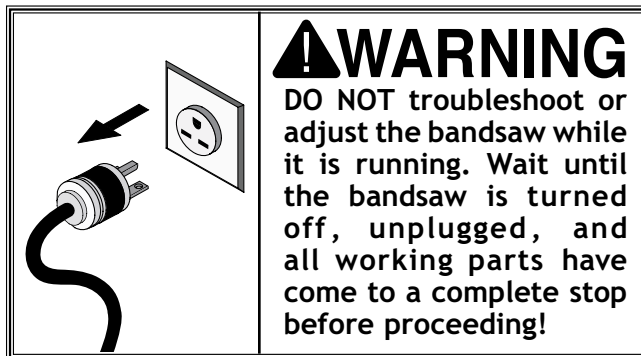

Figure 36. Fingers poised over stop button.
3. Make sure that your finger is poised over the STOP button just in case there is a problem you can shut power OFF, and push START. See Figure 36.